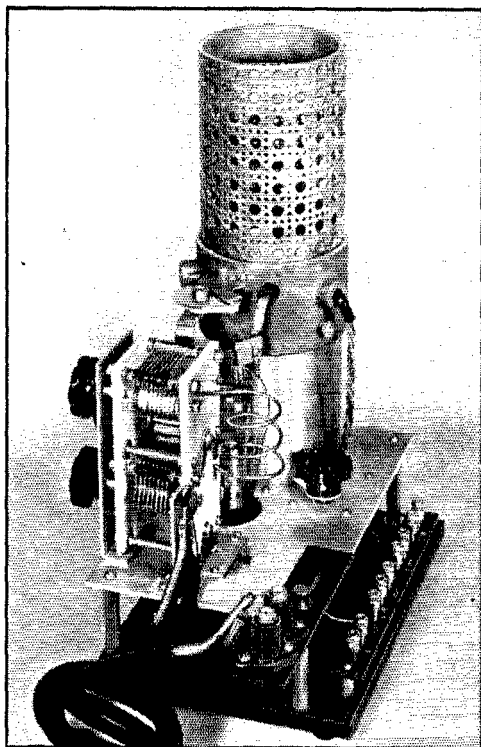

Fig. 10 — This view of the 5-meter transmitter shows more clearly the transmission line arrangement for producing the balanced output.
- L5 — Amplifier plate coil, three turns No. 12, as shown in Fig. 10.
In the schematic diagram of Fig. 5 most of the by-pass condensers are represented by a short line directly above and parallel to the ground plane. This representation is used to indicate that each of these condensers is formed by clamping thin mica sheets between a metal plate or a wide copper strip and the grounded metal chassis. The copper strip is held with the aid of a top metal ground plate that fastens to the chassis and is insulated from the copper strip by mica. One of these condensers is shown clearly in Fig. 10. It can be seen in back of and connected to the lower amplifier tuning condenser. These built-up condensers are only of value if they are placed at the point that needs by-passing and if short wide strips are used for their connections.